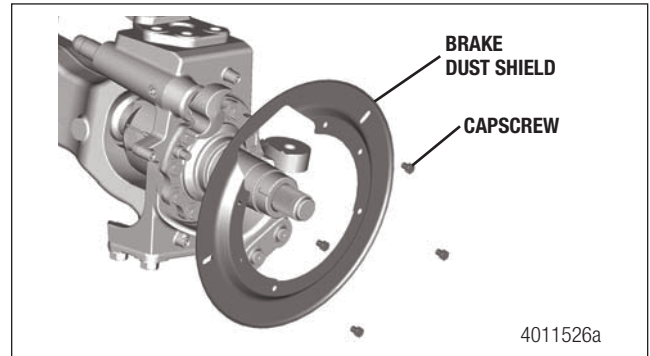

Figure 5.21
- Remove the brake dust shield mounting screws and remove the brake dust shield. Figure 5.21.